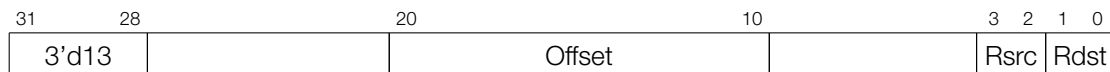

Figure 135: Instruction Type – LD
**Operand**    **Description** - see Figure 135